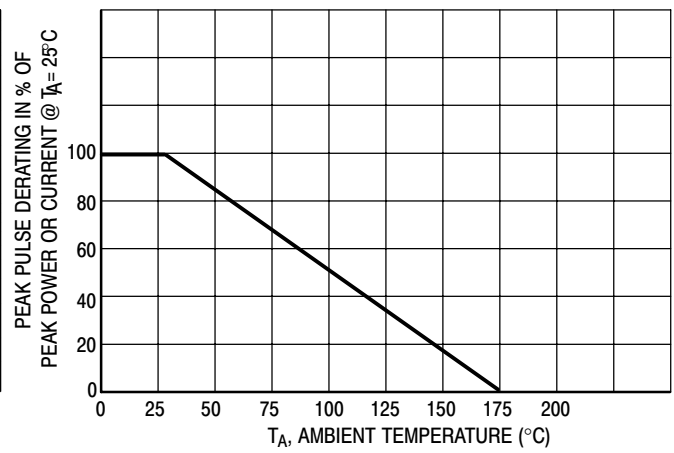
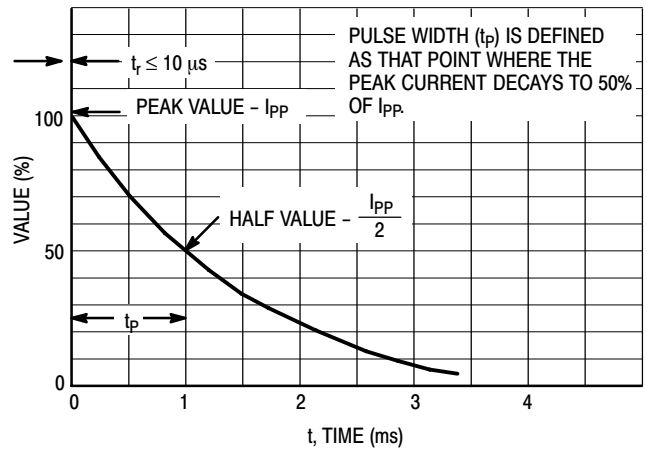

Figure 2. Pulse Derating Curve
Figure 4. Pulse Waveform
1. Nonrepetitive current pulse per Figure 4 and derated above $T_A = 25^\circ\text{C}$ per Figure 2.
7. Surge current waveform per Figure 4 and derate per Figure 2 of the General Data – 1500 W at the beginning of this group